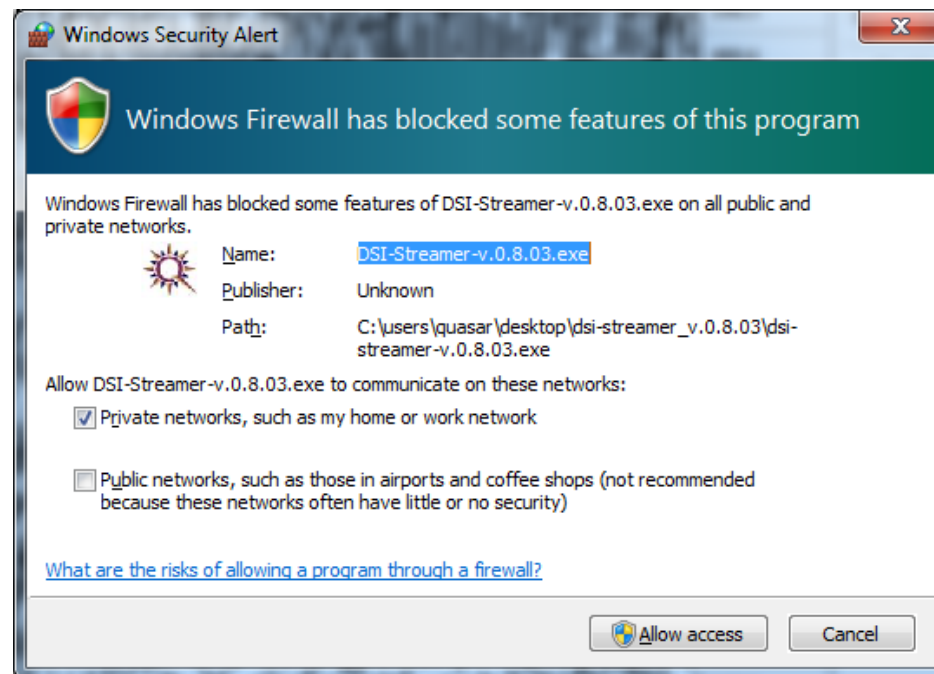

Figure 42 – Firewall Warning
- Your Firewall may present a warning, as seen in Figure 42. Allow DSI-Streamer access.